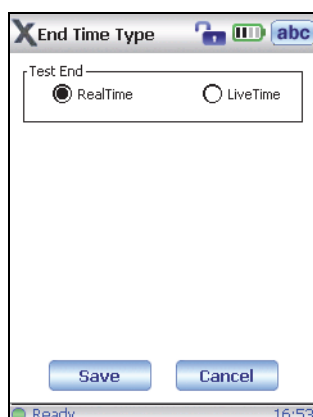

Figure 4-19 The End Time Type screen
4. In the **End Time Type** screen, select the desired **Test End** parameter (see Figure 4-19 on page 78).